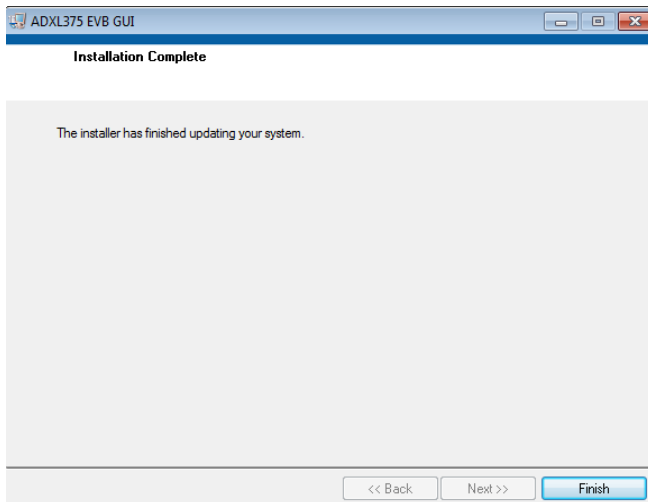

Figure 13. ADXL375 EVB GUI Installation Complete
4. To start the installation, click **Next**. The installer completes installation of the software evaluation GUI and all required National Instruments drivers and run-time engines. After the installation is complete, the box shown in Figure 13 is displayed.